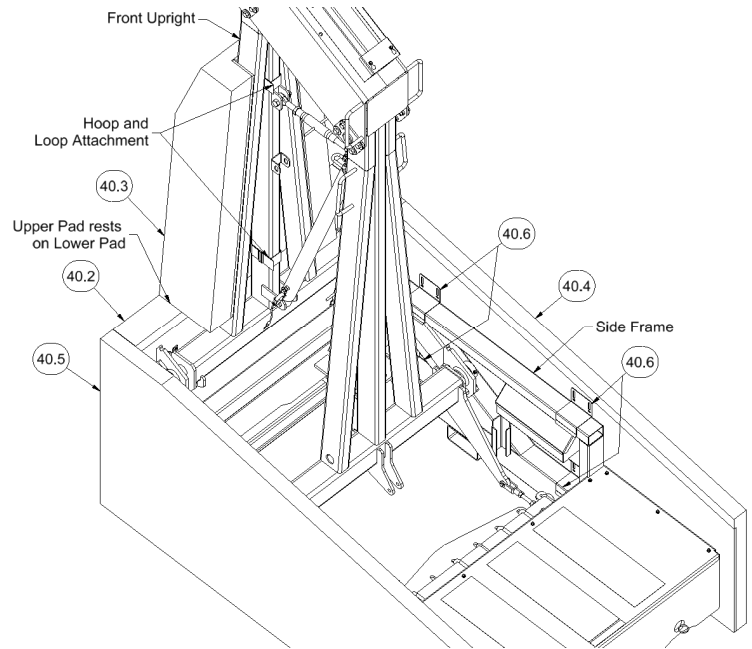

Figure 25
4. Install the Side Pads, item 40.4 and 40.5, by positioning its Pad Clips above the side frame rails and pushing the pad down. Pad Clip, item 40.6, will hook over both the top and bottom frame rails as shown in figure 25. The Pad Clip should bear on the top of each frame rail. The top of the Front Lower Pad, item 40.2, and the Side Pads should be even. Adjust the Front Pad vertically as required
5. Install the Upright Pad, item 40.3, to the center post of the Front Upright using the hook and loop straps as shown in figure 25. The Upright Pad should touch the Lower Front Pad.
- b. Release the rear Tie Down Bolt. The Tie Down Bolt should be removed from the frame and stored in the Tool Box on the left-hand side of the unit, shown in figure 25 and 31.